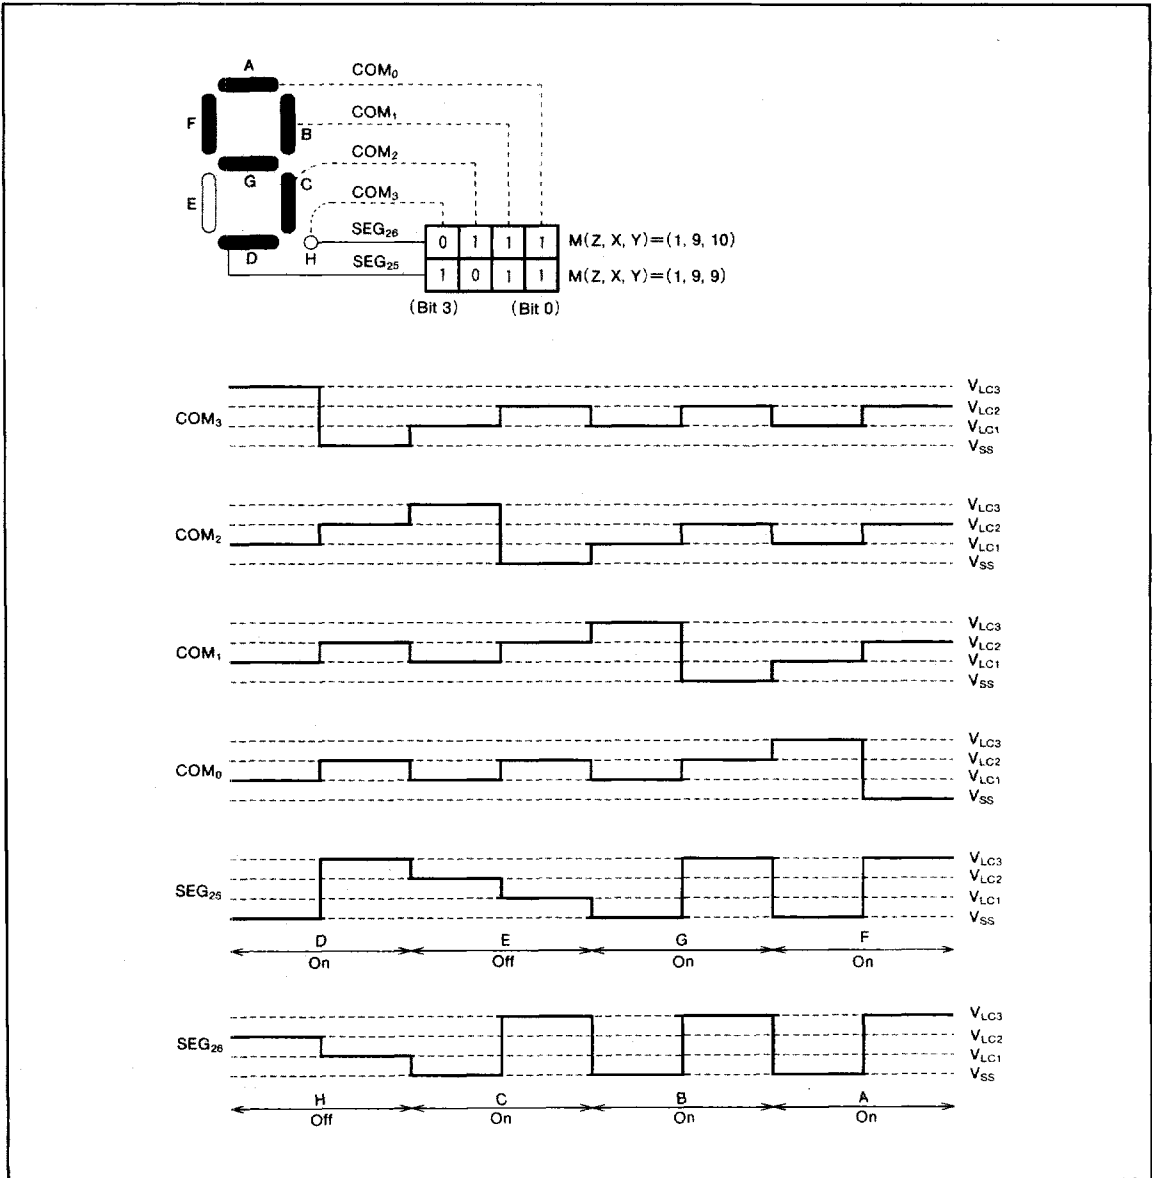

Fig. 47 Display pattern example and drive waveform example
4. Write (1011)₂ and (0111)₂ to addresses M(Z, X, Y) = (1, 9, 9) and M(Z, X, Y) = (1, 9, 10) in RAM as shown in Fig. 47.